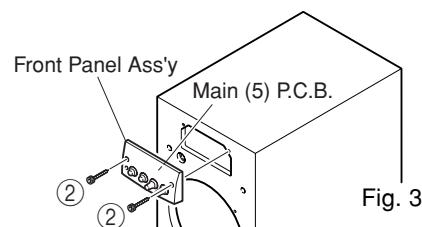

Fig. 3
Remove 2 screws (②) and then remove the Front Panel Ass'y in Fig. 3.